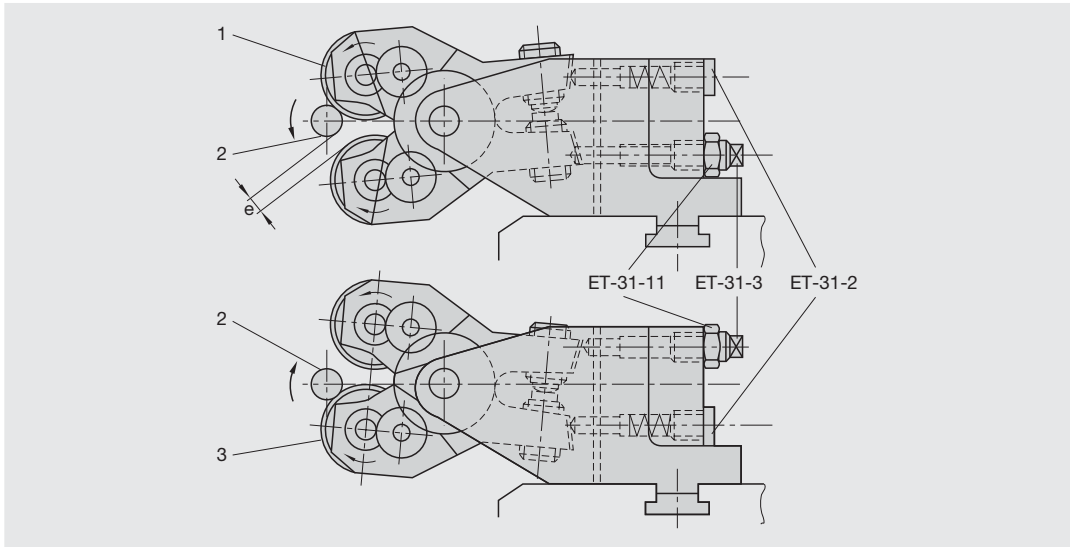

Fig. 15: Adjusting the pendulum clearance with a spring-loaded bolt
The spring-loaded bolt (ET-31-2) can be inserted in the rolling head holder at two positions (see Fig. 15). If the upper thread roll (1) rotates in the same direction as the workpiece (2), the spring-loaded bolt (ET-31-2) also has to be inserted in the holder at the top (and accordingly).